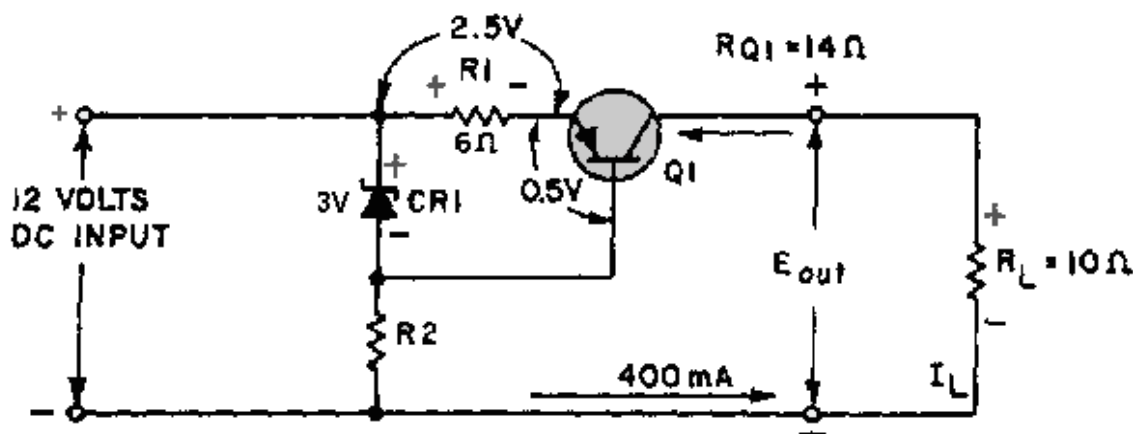

Figure 4-43.—Current regulator (with a decrease in R_L).
Since you are familiar with the basic current regulating circuitry, let's examine in detail how the various components work to maintain the constant 400-milliampere output. Refer to the schematic shown in figure 4-43. Remember a decrease in load resistance causes a corresponding increase in current flow. In the example shown, the load resistance R_L has dropped from 15 ohms to 10 ohms. This results in a larger voltage drop across R_1 because of the increased current flow. The voltage drop has increased from 2.4 volts to 2.5 volts. Of course, the voltage drop across CR_1 remains constant at 9 volts due to its regulating ability. Because of the increased voltage drop across R_1 , the forward bias on Q_1 is now 0.5 volt. Since the forward bias of Q_1 has decreased, the resistance of the transistor increases from 9 ohms to 14 ohms. Notice that the 5 ohm increase in resistance across the transistor corresponds to the 5 ohm decrease in the load resistance. Thus, the total resistance around the outside loop of the circuit remains constant. Since the circuit is a current regulator, you know that output voltages will vary as the regulator maintains a constant current output. In the figure, the voltage output is reduced to 4 volts, which is computed by multiplying current (I) times resistance (R) ($400 \text{ mA} \times 10 \text{ ohms} = 4 \text{ volts}$).
- Q37. In figure 4-43 any decrease in the base-emitter forward bias across Q_1 results in an increase/a decrease (which one) in the resistance of the transistor.